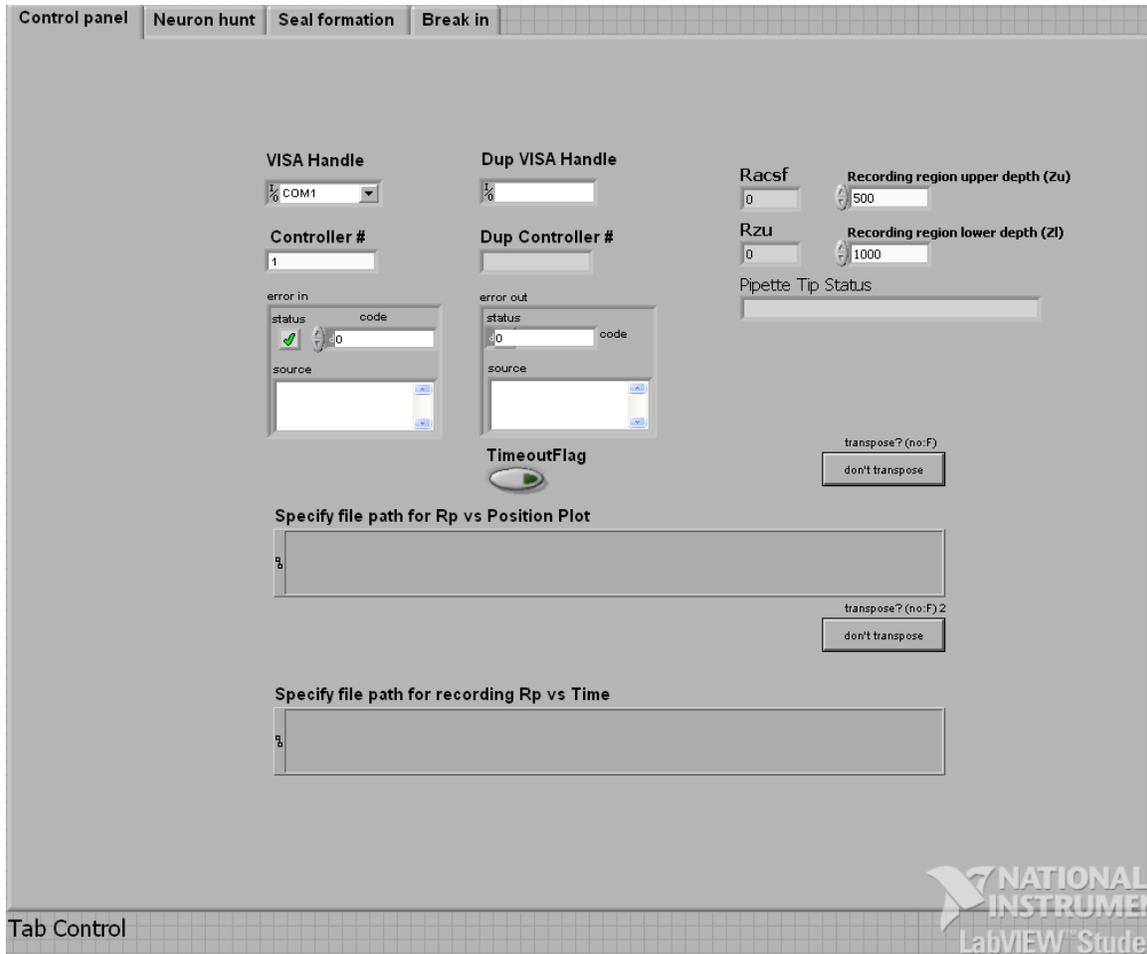

Figure 2.2.1: Computer screen capture of the Control panel tab of the Autopatcher program
2.2.1. Control Panel Tab Settings (Fig. 2.2.1)
- 4) If the pipette is blocked, “Pipette blocked, install new pipette” message is displayed under Pipette Tip Status (See **Fig. 2.2.1**). It is then retracted back and the program stops. Install a new pipette, and performs the manual tasks described in section 3 before restarting the Autopatcher.